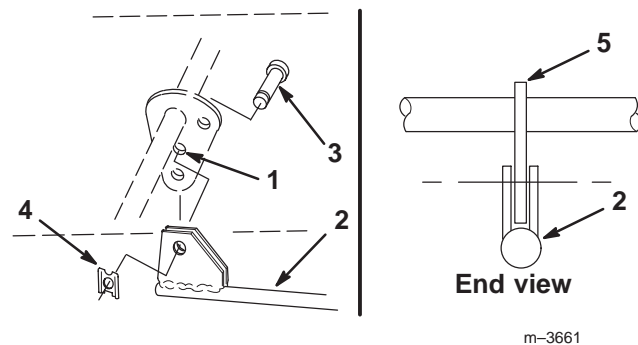

Figure 17
4. From beneath the tractor, connect the lift rod assembly to the middle hole in the attachment lift plate with the 1/2 x 1 in. (25 mm) clevis pin and clip (Fig. 17).